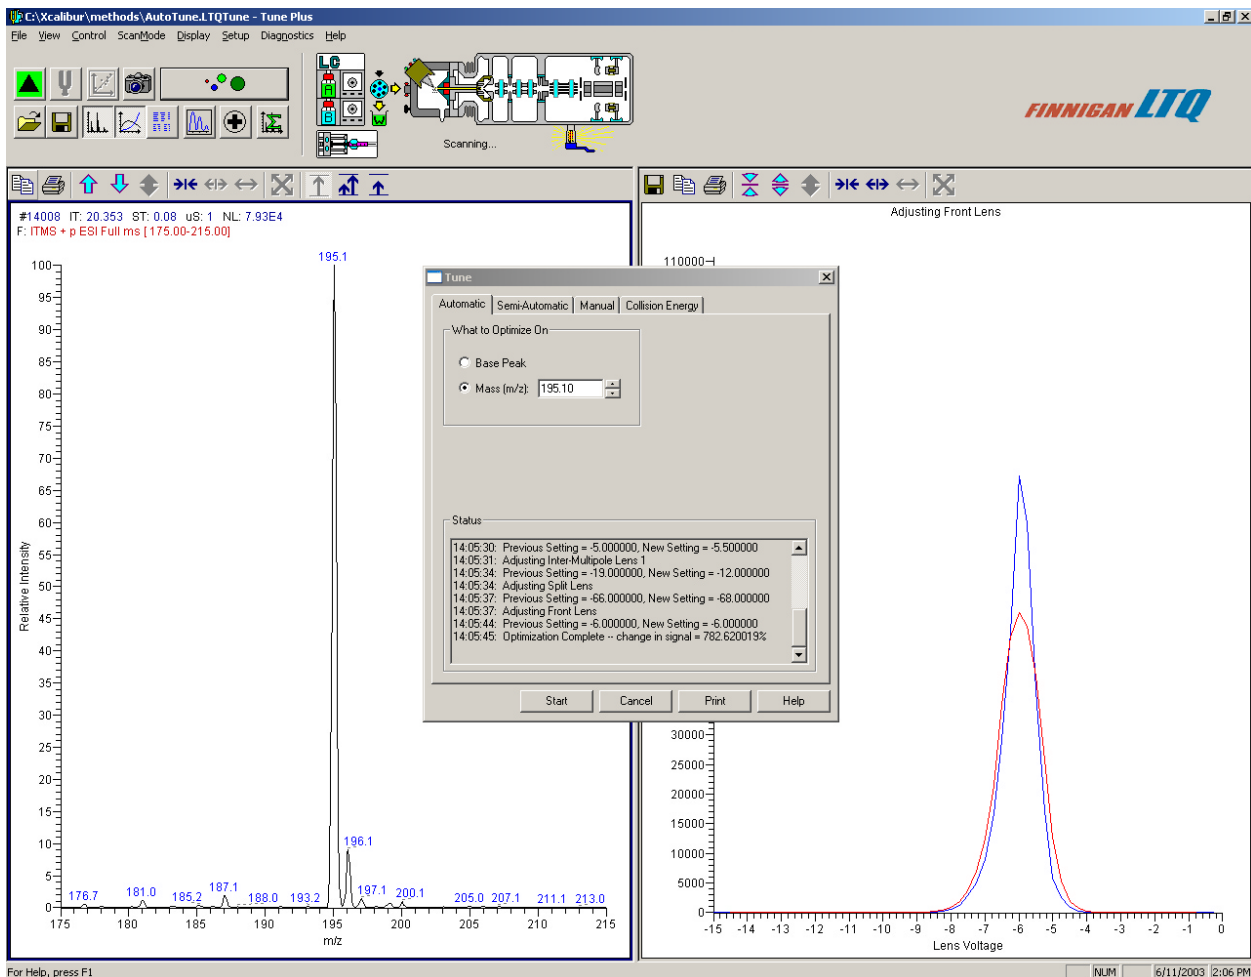

Figure 3-9. Tune Plus window, showing the results of a typical automatic tune procedure
6. On the File/Display toolbar, click on the Graph View button to display the Graph view. See Figure 3-9.
7. Observe the Tune Plus window and the Tune dialog box. While automatic tuning is in progress, the Finnigan LTQ MS detector displays various tests in the Spectrum and Graph views in Tune Plus and displays various messages in the Status group box in the Tune dialog box. Your Tune Plus window should now look similar to the one shown in Figure 3-9.